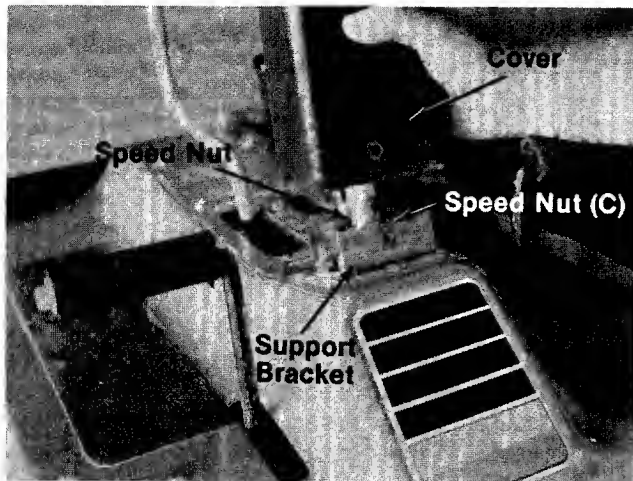

FIGURE 3.
5. Place two speed nuts (C) on support bracket as shown in figure 3.
6. Place the cover over the steering tube assembly. Line up holes in cover with speed nuts. See figure 3.